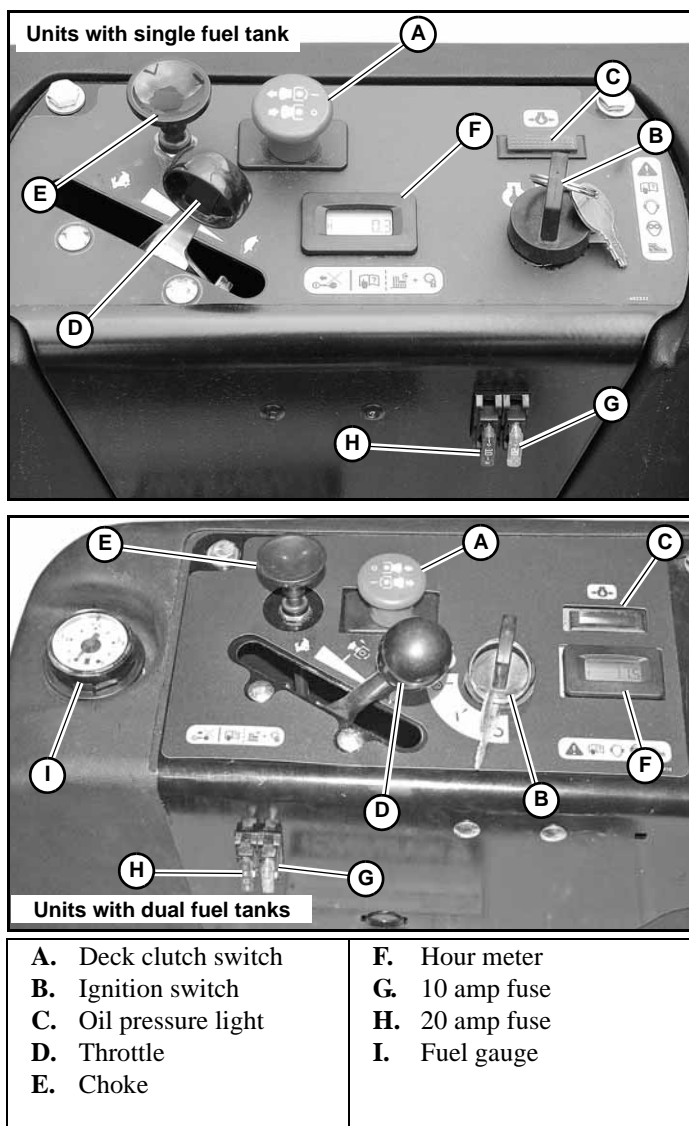

Figure 3-1
- A. Deck clutch switch (Figure 3-1)** — this switch engages the deck. Pull the switch up to engage and push switch down to disengage the clutch.
- B. Ignition switch (Figure 3-1)** — a three position switch: “OFF”, “RUN”, and “START”. With key inserted, rotate it clockwise to “START” position; release key when engine starts, and switch will automatically return to the
- C. Oil pressure light (Figure 3-1)** — this light comes on when the ignition switch is placed in the RUN position and stays lit until the engine is running and a safe oil pressure is developed. If light comes on during operation, shut engine off immediately and locate and correct the problem.
- D. Throttle control (Figure 3-1)** — a cable is linked to the engine throttle for controlling engine speed. Move lever forward to increase engine rpm, move lever rearward to decrease engine rpm.
- E. Choke control (Figure 3-1)** — a cable is linked to manually operate the engine choke. When the lever is in the down position, the choke is in the off (run) position. When the knob is pulled up, the choke is in the on (start) position. **Do not** operate the machine in the on (start) position.
- F. Electronic hour meter (Figure 3-1)** — registers 1/10 hour increments up to 9,999.9 total hours. Connected to the ignition switch, the meter records the accumulative time while the ignition key is switched to the RUN position.
- G. 10 amp fuse (Figure 3-1)** — Ignition system - 10 amp, blade-type.
- H. 20 amp fuse (Figure 3-1)** — Safety system - 20 amp, blade-type.
- I. Fuel gauge (Figure 3-1)** — This gauge shows the fuel level for each fuel tank.